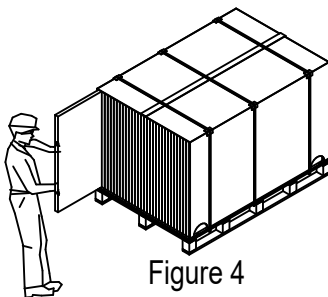

Figure 4
4. 从组件背面一侧朝另一侧依次取出组件，然后两人搬运，如图4。
Pull slowly out the modules from the back side of the module, as showed in Figure 4, then carry one module with two people.